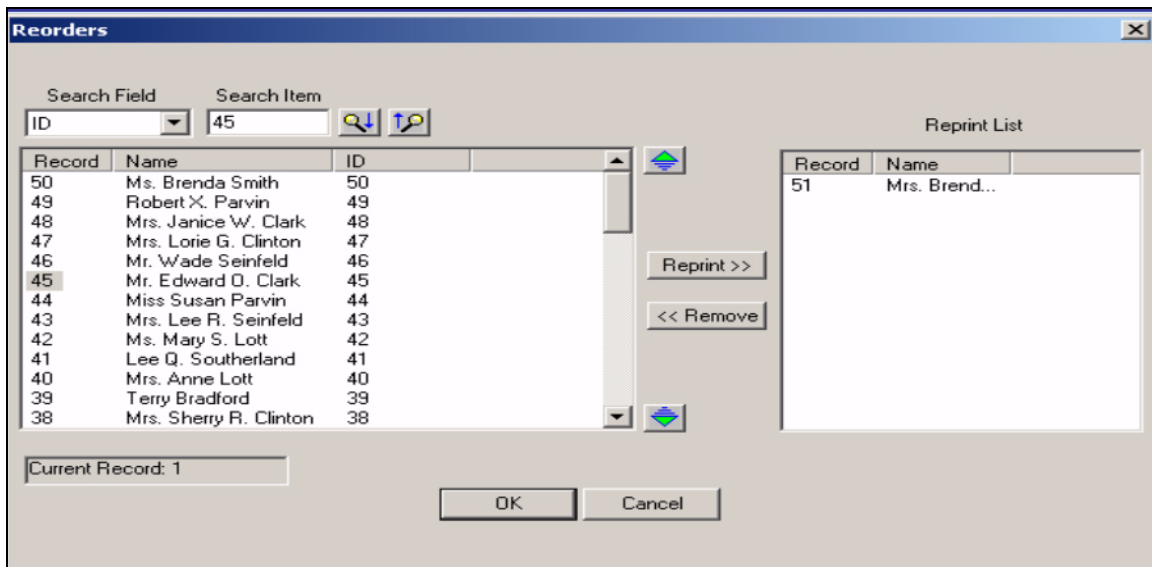

Figure 5-3: Reorders Screen
- From the list in the left window, select the record number of the record to be imaged again (See Figure 5-3).